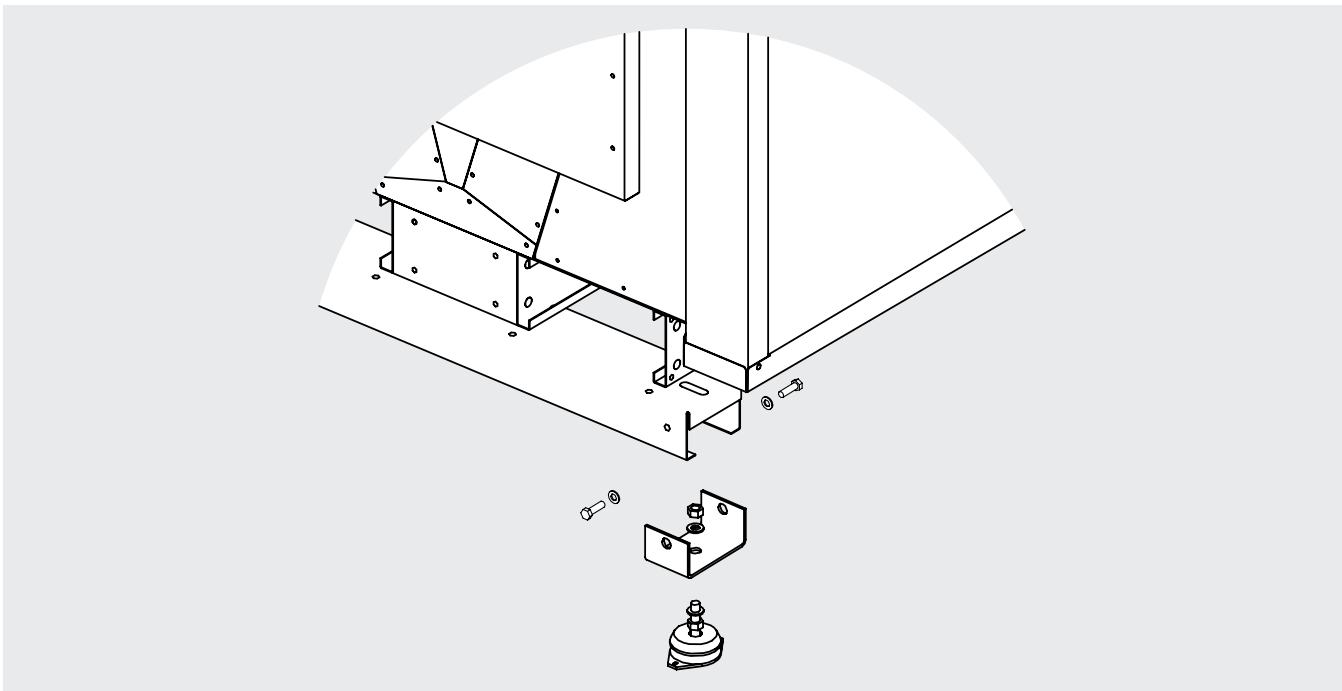

Figure 9
- 6.5 The model must be securely anchored to the support base, use all the fixing points. In order to prevent the transmission of noise. Possibly use shock absorbers. See Figure 9.